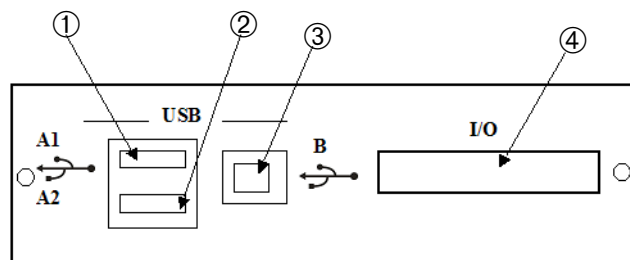

Figure 1-9 Optional I/O PCB Rear Panel
| ② Cover Plate | Access to expansion slot. This is not used when an optional I/O PCB is installed. A rear panel of the optional I/O PCB is shown in Figure 1-9 on page 1-19. |
A rear panel for the optional I/O PCB assembly is shown in Figure 1-9.